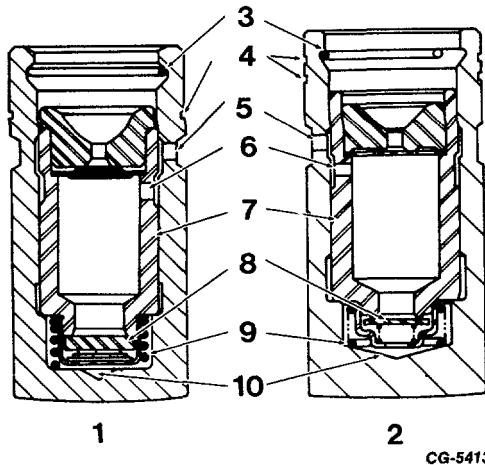

Fig. 120 Sectional View of Hydraulic Tappets Showing Types "A" and "B"
Optional sources of hydraulic valve lifters have been established. When disassembling the lifters, do not mix the components of any lifter. Figure 120, illustrates the difference in construction between types "A" and "B." Generally, the service instructions are the same for all types of hydraulic lifters. The push rods are common for all types of lifters.
- E. Try the plunger for free fit in the cylinder. F. Reassemble all parts in proper sequence Figure 120.